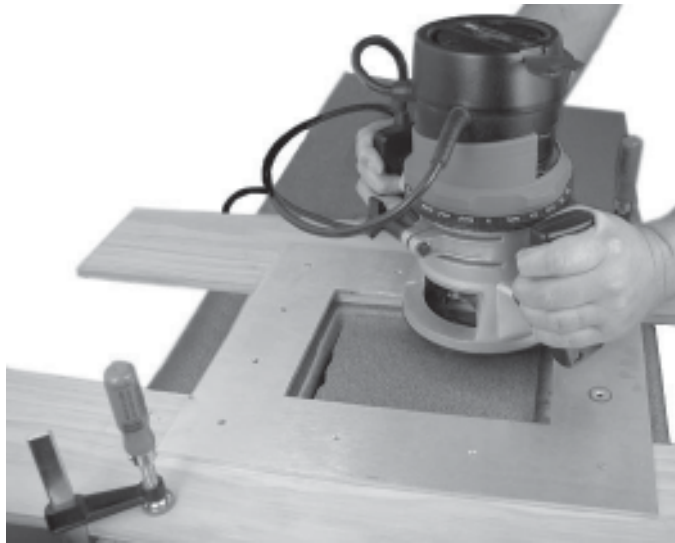

Figure 2-3 — Cutting the opening with a router
3. Once the template assembly is positioned properly, use C-clamps to secure the assembly to the table for routing as shown in figure 2-3 on the next page.
- Using a router with a 5/8" (or 16 mm) outside diameter guide bushing and a 1/2" (or 12 mm or 12.7 mm) diameter straight router bit, carefully cut the opening in the table surface (figure 2-3).